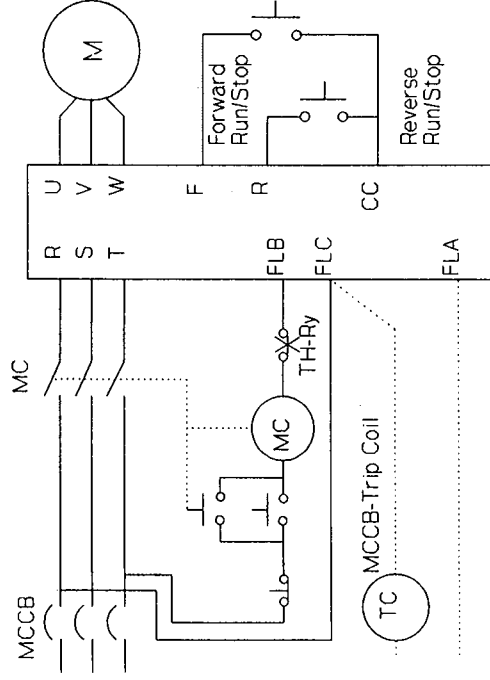

Figure 5.2 Simplified Power and Control Wiring
- Use shielded cable on control circuits. See Figure 5.2.